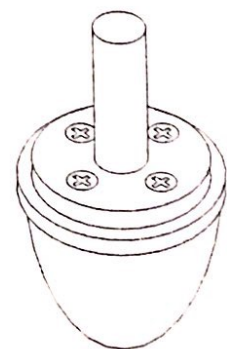

Figure 19
3. Select suitable pad and install it in accordance with Figure 19.